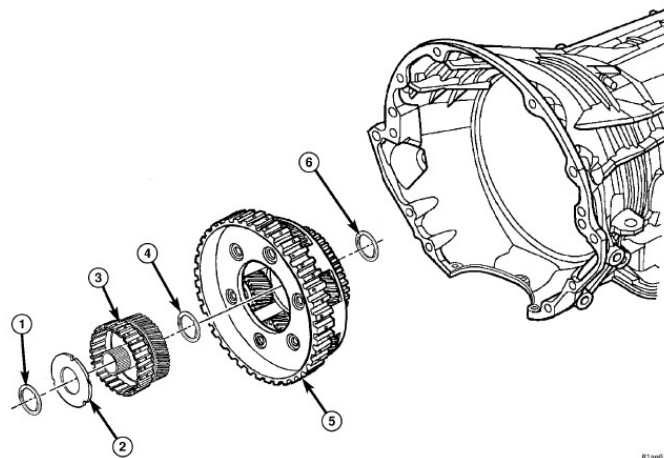

Fig. 17
32. Install the number 6 thrust bearing against the **NEW** output shaft rear selected thrust plate/shim with the flat side against the thrust plate/shim and the raised tabs on the inner race facing the front of the transmission Fig. 17.
33. Install the **NEW** 4C clutch hub/reaction sun gear assembly into the reaction planetary gear set Fig. 17.